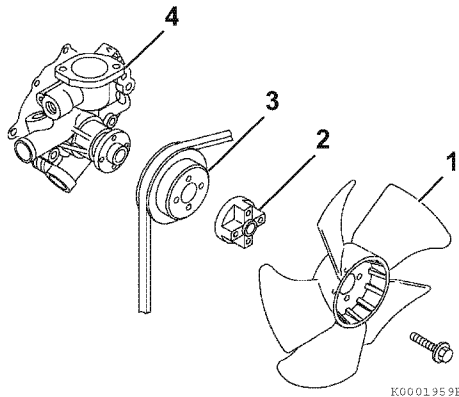

Figure 8-10
- Reinstall the engine coolant pump V-pulley (**Figure 8-10, (3)**), spacer (**Figure 8-10, (2)**) engine coolant fan (**Figure 8-10, (1)**) and engine coolant fan guard (if equipped).